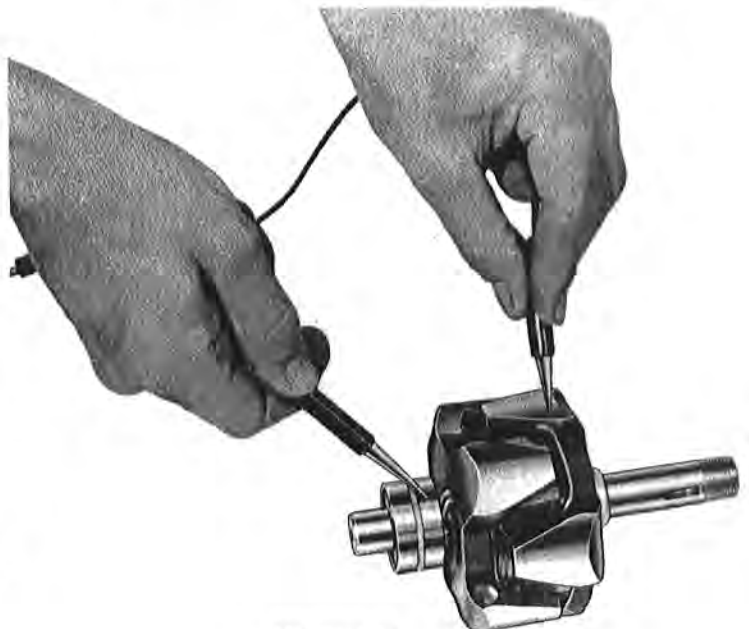

Figure 7
1. Rotor - The rotor should be tested for grounded or shorted windings. The ground test can be made with test probes, connected in series with a 110 volt test lamp, an ohmmeter or any type continuity tester. Figure 7. There must not be any continuity between the slip rings and the rotor shaft or poles.